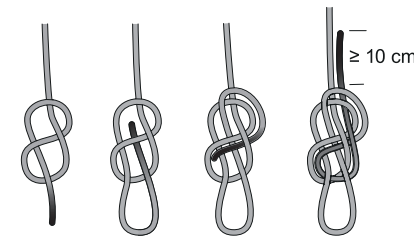

Fig.1 Detail of figure of eight knot
12. To make a termination, tie a figure-eight knot at the desired location on the rope. We recommend a figure eight loop for your own rope terminations. There must be at least 10 cm of rope behind the knot. Please tie the knot correctly, as illustrated in Fig.1! Please note the route the load-bearing portion of rope takes (arrow). A different version will reduce the breaking load considerably.